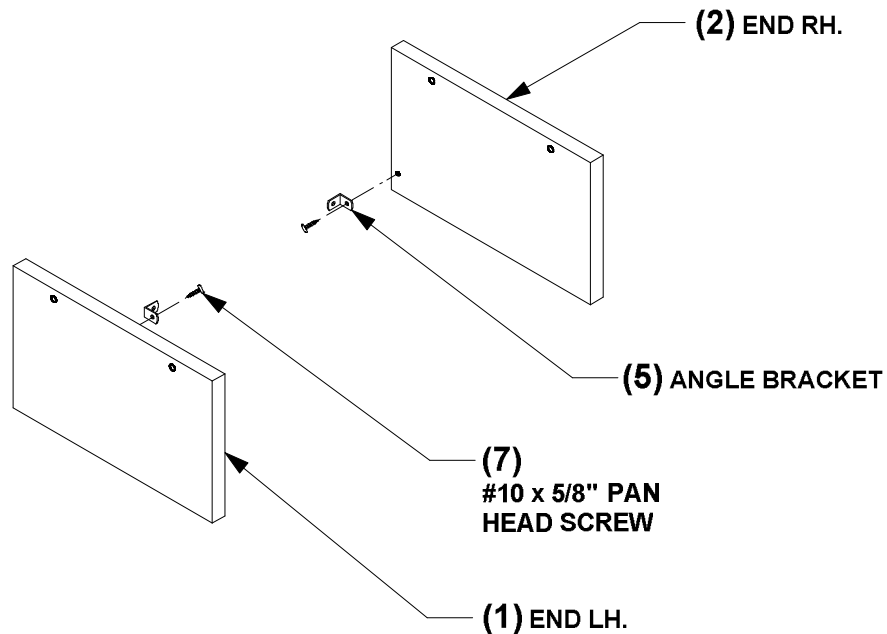

FIGURE 2
2. Attach angle brackets (5) to lower rear edge of ends (1, 2) using #10 x 5/8" pan head screws (7). See figure 2.